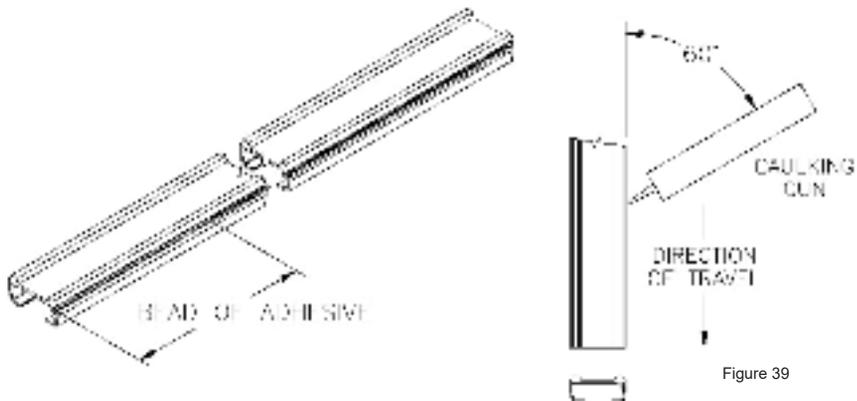

Figure 39
- e. Apply a 1/8" diameter bead of SikaFlex 221 adhesive sealer into the exposed seal groove. The bead should be from the end of the seal to the end of the slat. Hold the caulking gun at a 60° angle to the floor slat. Push the bead, do not pull (Figure 39).